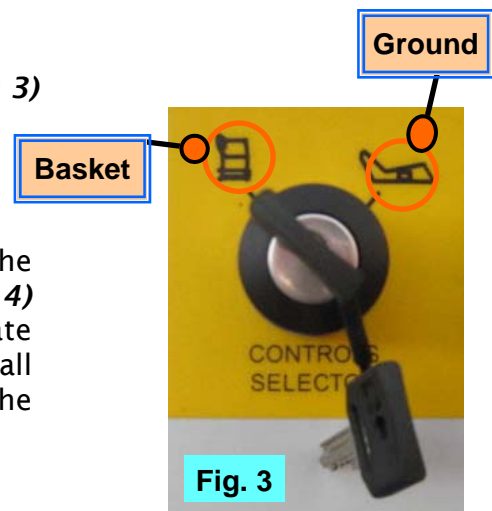

Fig. 3
3. With platform key switch set to 'Ground' (Fig 3)
2. At the Ground Control Station, turn the key to 'Basket'. (See Fig. 3)
6. At the Ground Control Station, turn the key to '**Ground**'. (See Fig.3)